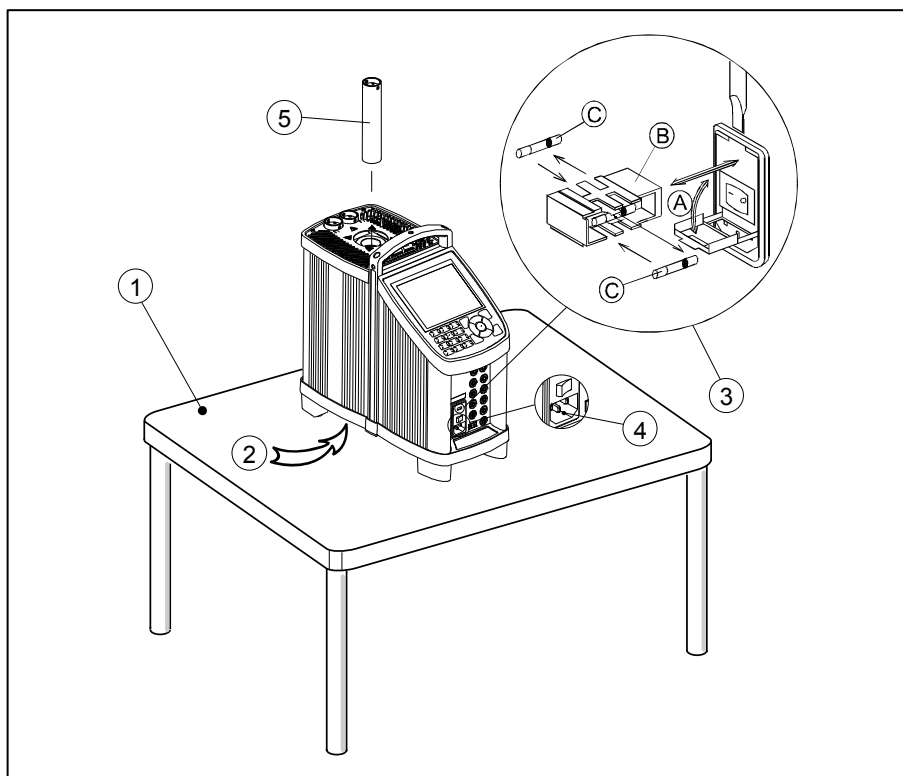

Fig. 1
- ③ Check that the fuse size corresponds to the applied voltage on The fuse is contained in the power control switch (on/off switch To check do as follows (see fig. 1):